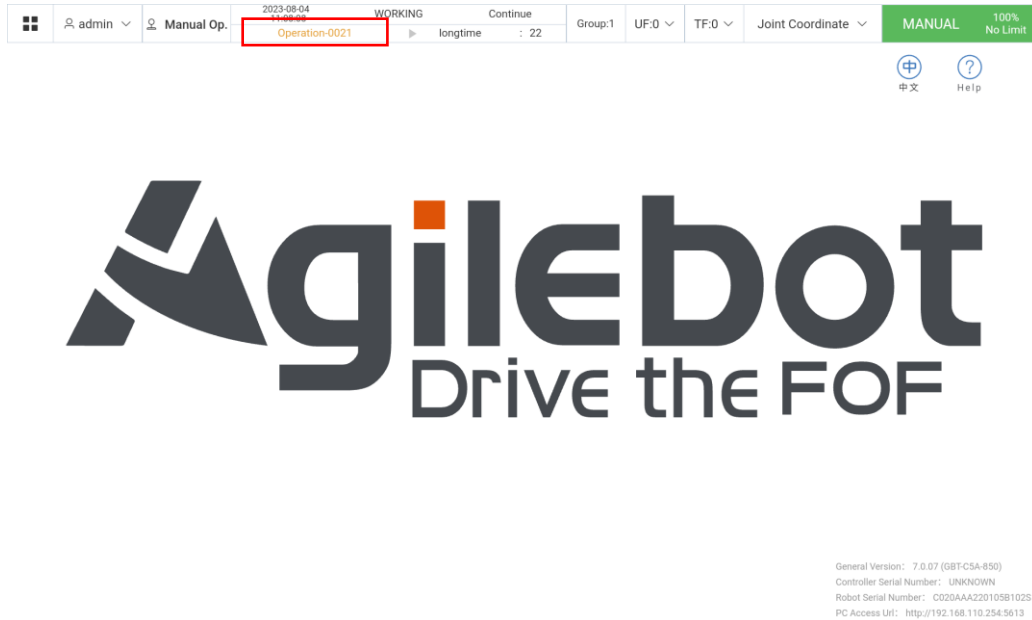
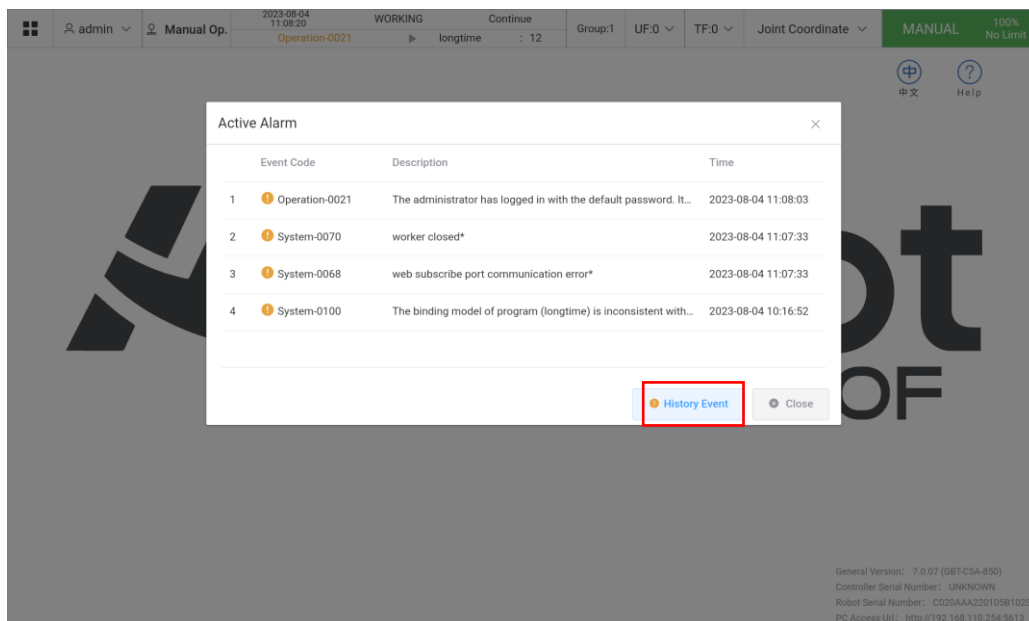

Fig. 3.1 Main Screen of Operating Terminal
Fig. 3.2 Current Alarm Popup
1. In the main screen of the operating terminal, click on the character in the red box in Fig. 3.1 to pop up the screen as shown in Fig. 3.2.